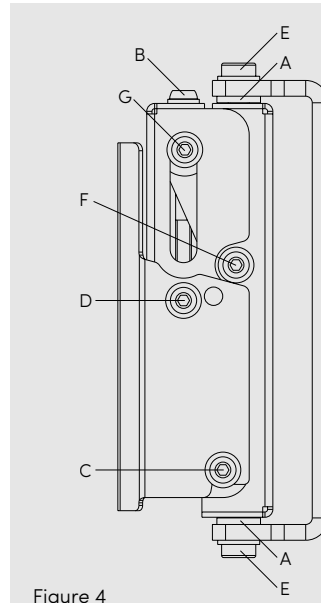

Figure 4
1. Remove both oval-head screws M6 (D) at the mounting plate and loosen the screws (C, F, G) by about three turns. Remove the mounting plate from the wall bracket. **SEE FIGURE 4.**